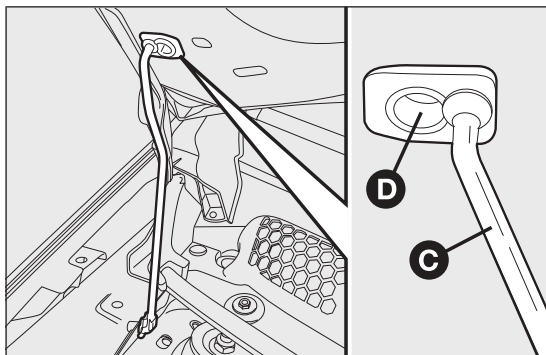

fig. 86
- lift the bonnet and, at the same time, release the bonnet stay C fig. 86 from its locking device, then insert the end of the stay into the housing D.
- hold the bonnet up with one hand and with the other remove the stay C fig. 86 from the housing D and fit it back in its locking device;